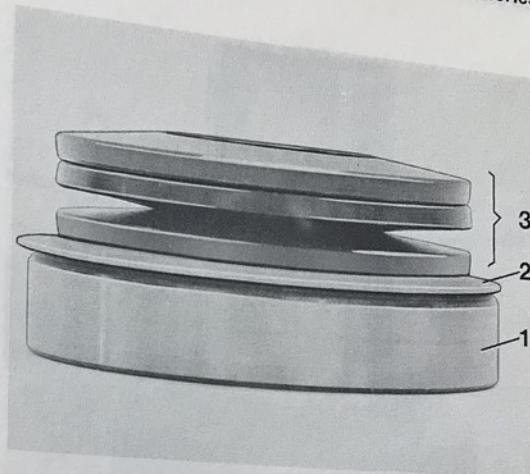

Fig. 92-77. Location for the washer
11. Place the bearing outer ring (1), spacer ring (2) and the thrust washers (3) on the shaft. Note the location of the washers, see Fig. 92-77.